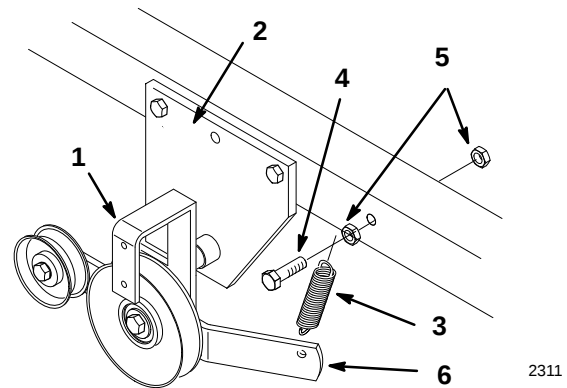

Figure 15
8. Open mid-mount hitch and insert rod of idler bracket(Fig. 15).
9. Slide spring onto 3/8 x 1-3/4" bolt and thread on first 3/8" lock nut (Fig.). Place bolt through hole in frame, just in front of mid-mount hitch, and secure with a second 3/8" lock nut (Fig. 15).